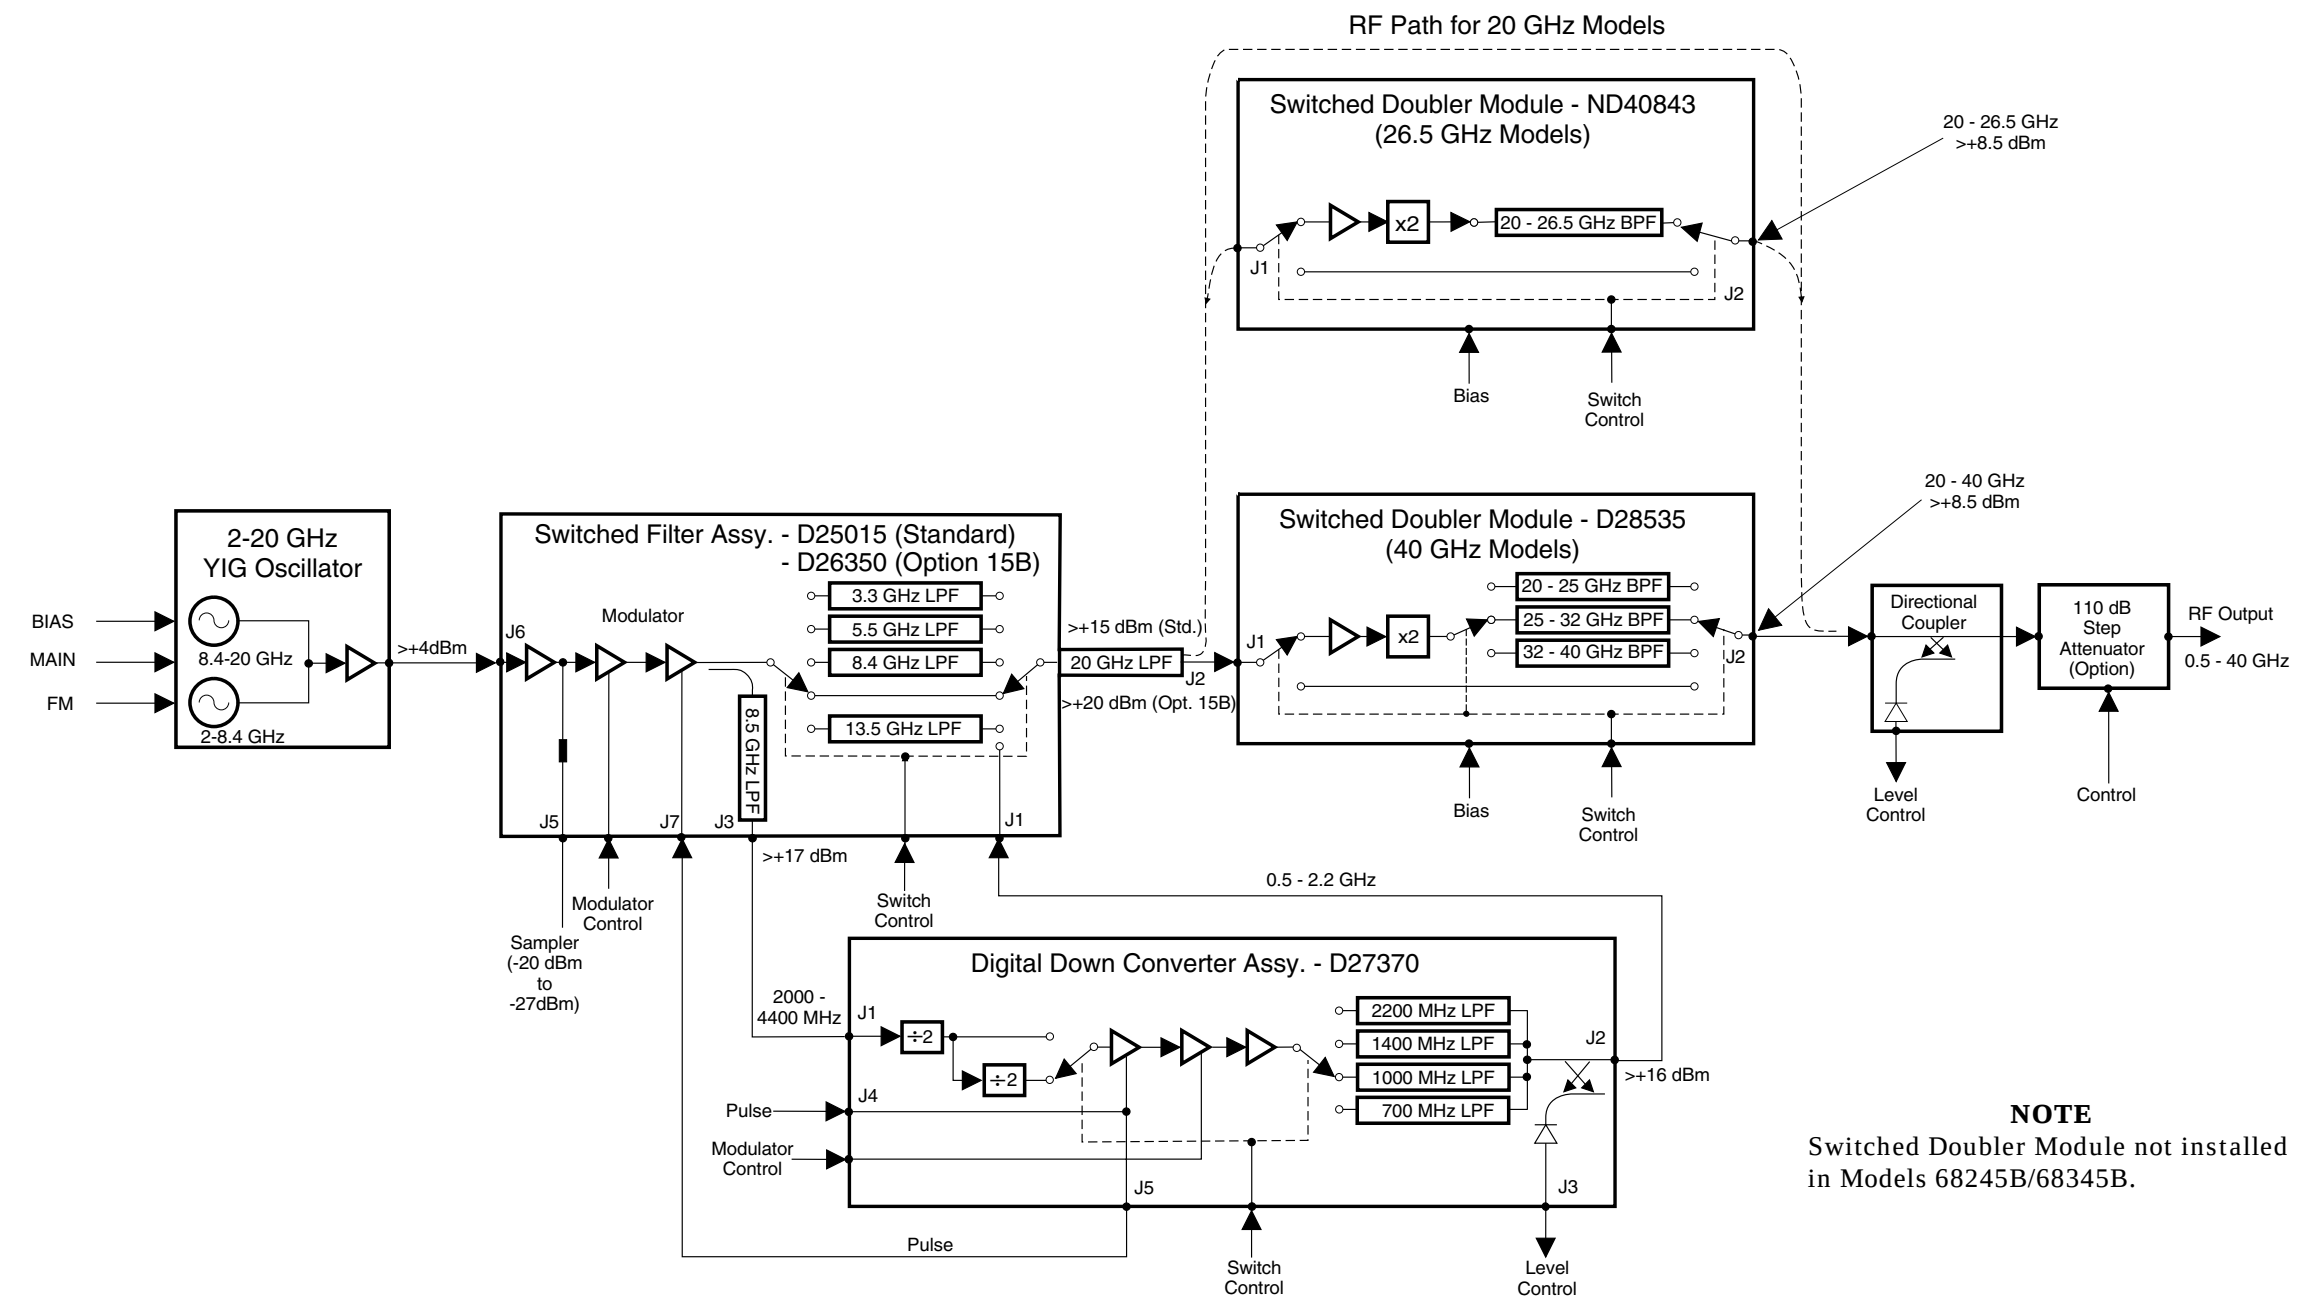

Figure 2-6. Block Diagram of the RF Deck Assembly for all ≤40 GHz 682X5B/683X5B Models
- ❑ Figure 2-6, page 2-27, is a block diagram of the RF deck assembly for all ≤ 40 GHz 682X5B/683X5B models.
The 0.5 to 2.2 GHz Digital Down Converter assembly (Figures 2-6 and 2-7), found in the 682X5B/683X5B models, provides improved phase noise across the 0.5 to 2.2 GHz frequency range. Power is applied to the down converter assembly at all times; however, the down converter amplifier is powered on by the A13 YIG Driver PCB only when the 0.5 to 2.2 GHz frequency range is selected.